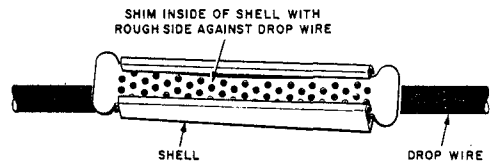

Fig. 10—Shim in Position in Shell
**4.04** Place the shell of the clamp on the wire with the small end pointing toward the hook. With the wire lying flat in the shell, insert the shim with its rough side against the wire as shown in Fig. 10.